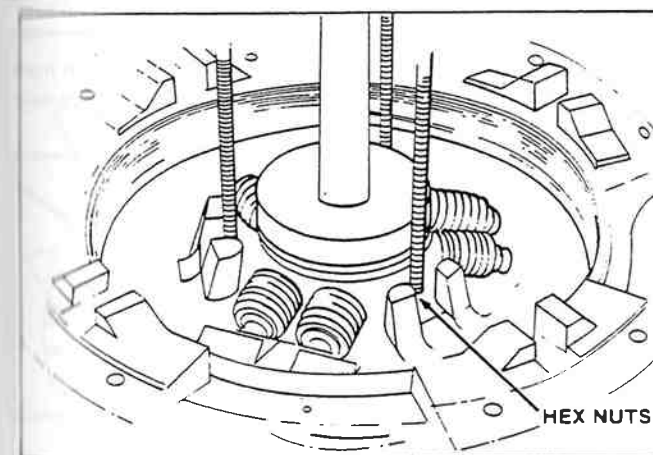

Figure 5-9. Compress Retainer.
10. Place assembly on an arbor press with a piece of tubing (see Note) supporting the release sleeve. Compress retainer until drive lugs bottom on flywheel ring and draw three hex nuts tightly against retainer (figure 5-9).